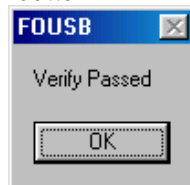

Figure 4-8 Verify OK screen
(2) For Verify, click the <verify> button and the file downloaded by "OPEN" and data written in the Target MCU will be verified. If the verified result matches, Figure 4-8 will appear. Click the <OK> button.